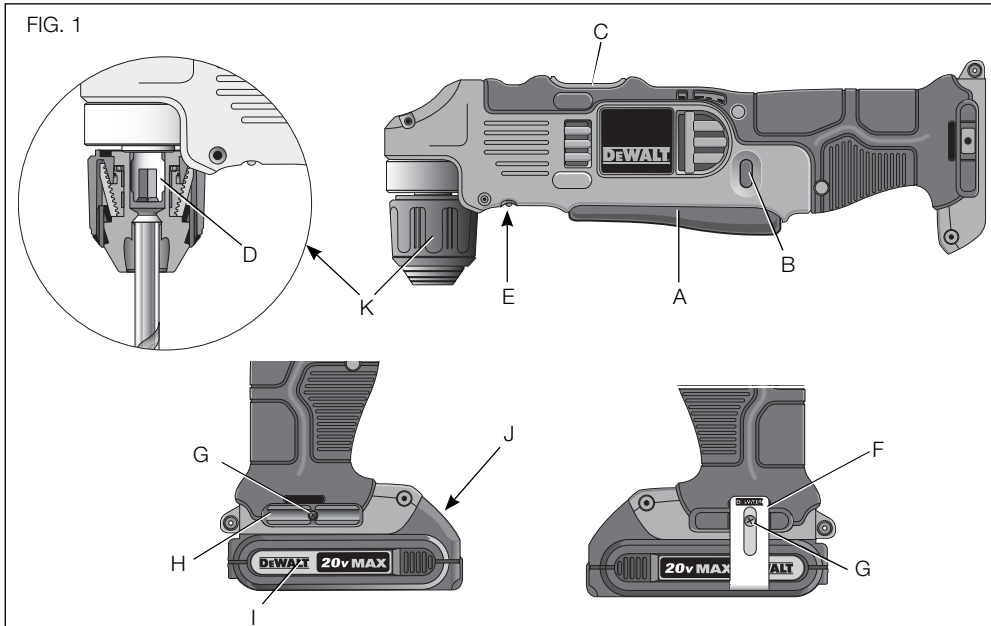

FIG. 2
### Charging Procedure (Fig. 2)
2. Insert the battery pack (I) into the charger, as shown in Figure 2, making sure the pack is fully seated in charger. The red (charging) light will blink continuously, indicating that the charging process has started.